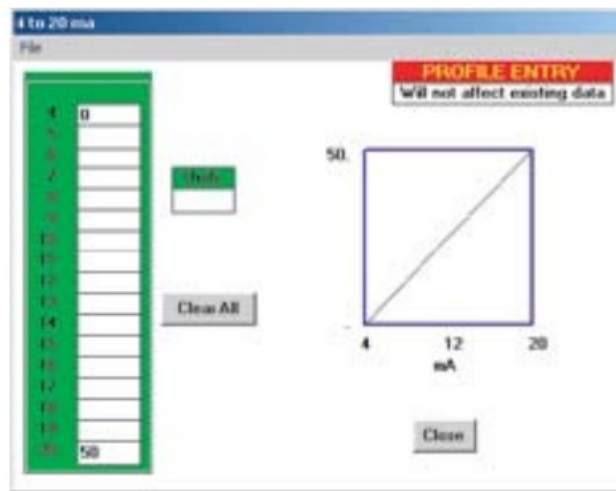

Figure 4
- A window similar to Figure 4 will appear as soon as you make your selection. This window shows the programmable scale points and the programmable units field. The left screen provides the scale and unit programming, while the right side displays the profile of the programmed scale in relationship to the actual input to the logger.